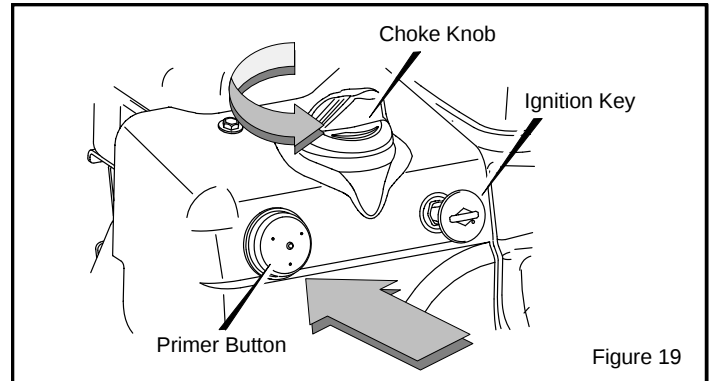

Figure 19
3. Insert key into ignition slot. Make sure it snaps into place (Figure 19). Do not turn key.